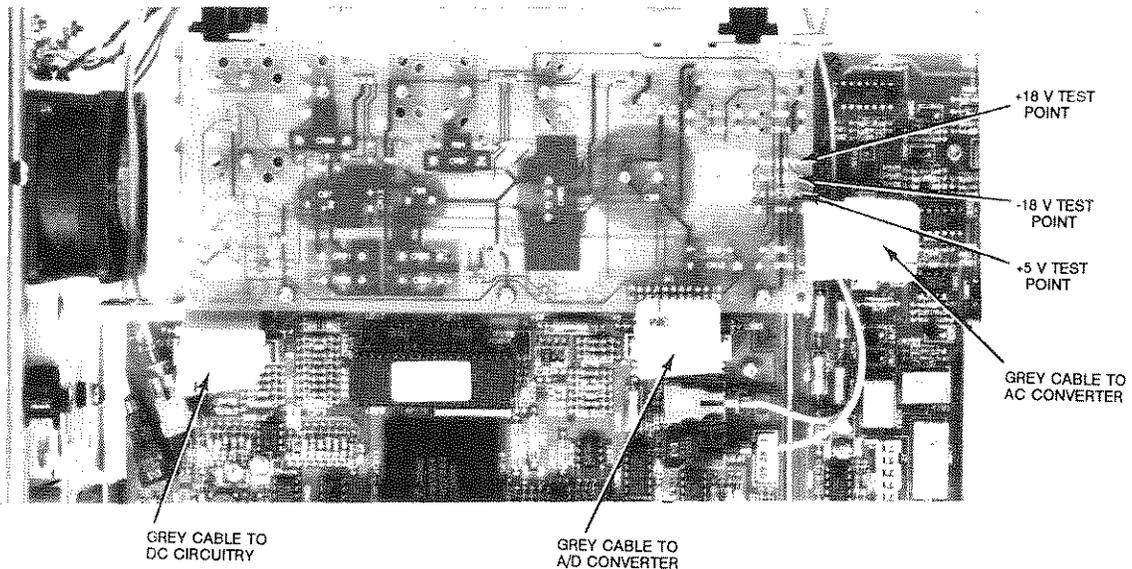

Figure 4-3. Inguard Power Supply
2. Refer to Figure 4-3. With the test digital multimeter, check for +5 V (\pm .05 V), +18 V (\pm 1.8 V), and -18 V (\pm 1.8 V) at the test points shown in the figure.
6. Refer to Figure 4-3 to locate the grey 20 pin cable that connects the Inguard Power Supply (A4) assembly to the DC Circuitry (A1) assembly. Unplug the cable at the power supply assembly.